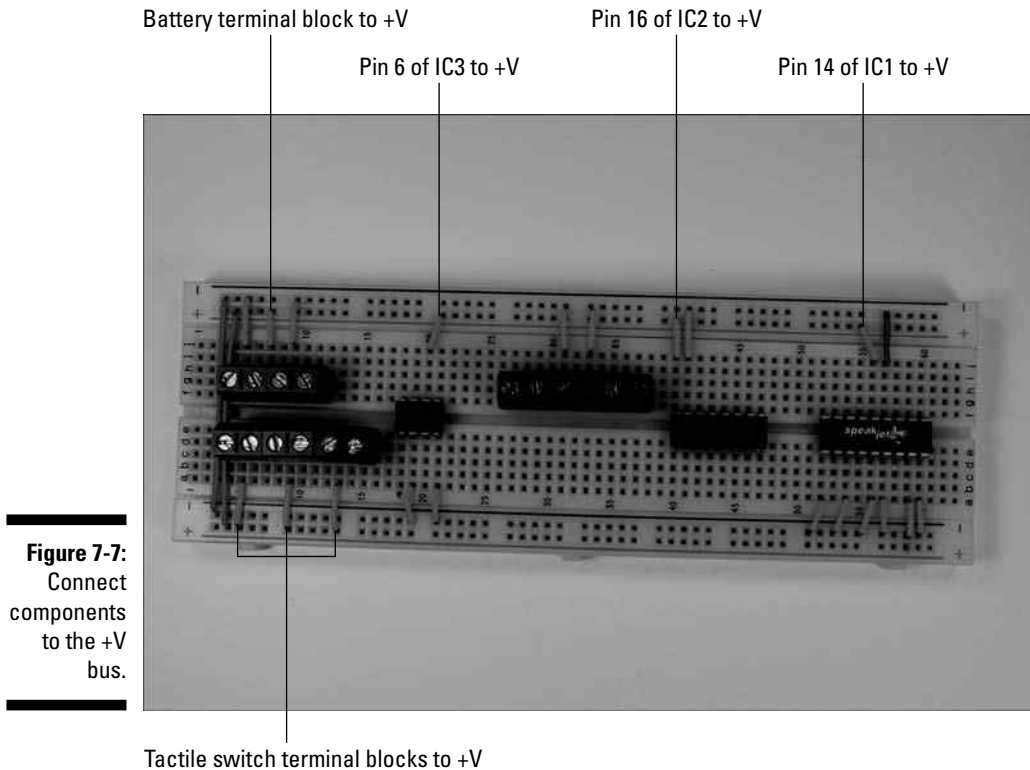

Figure 7-7:
3. **Insert wires to connect the ICs and the terminal blocks for the battery pack and the three tactile switches (S1, S2, S3) to the +V bus, as shown in Figure 7-7.**